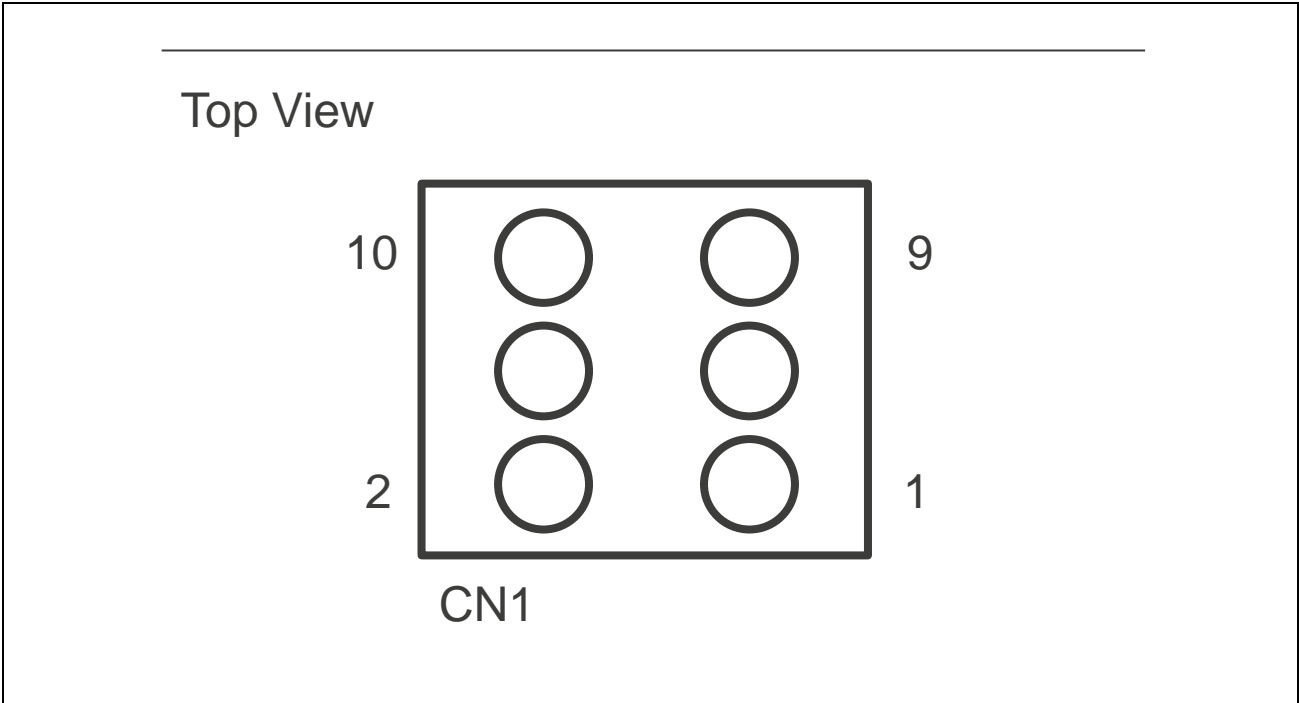

Figure 3.2 ADC Connector (CN1) Pin Layout Diagram
**Figure 3.2** illustrates the layout of the connector pins. **Table 3.1** shows the assignment of the connector pins.